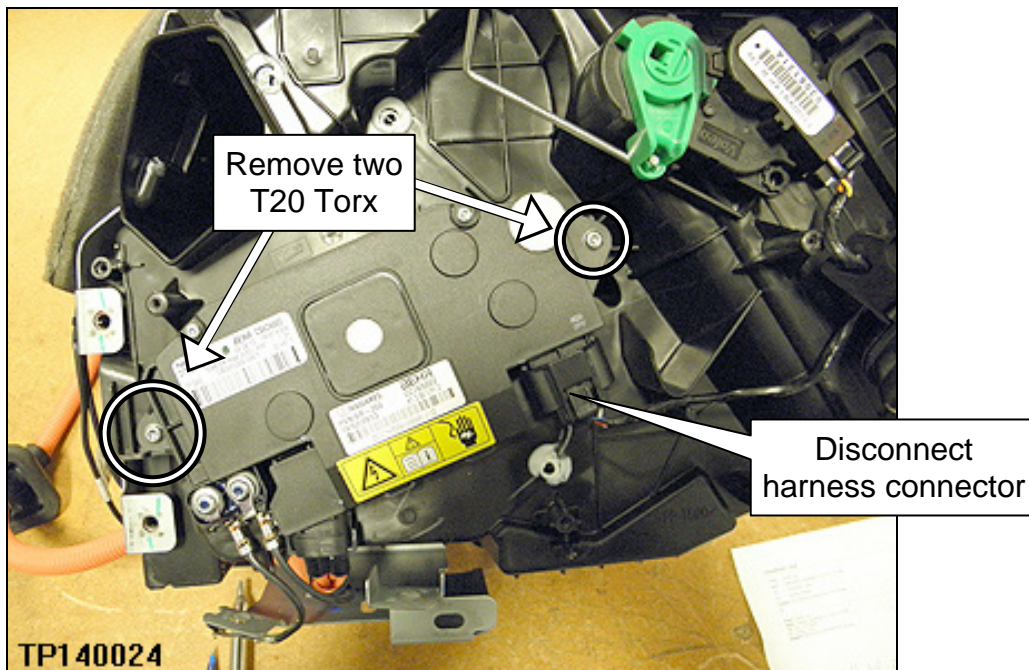

Figure 31
7. Remove the two T20 Torx screws that secure the PTC heater to the HVAC case and disconnect harness connector (shown in Figure 31).